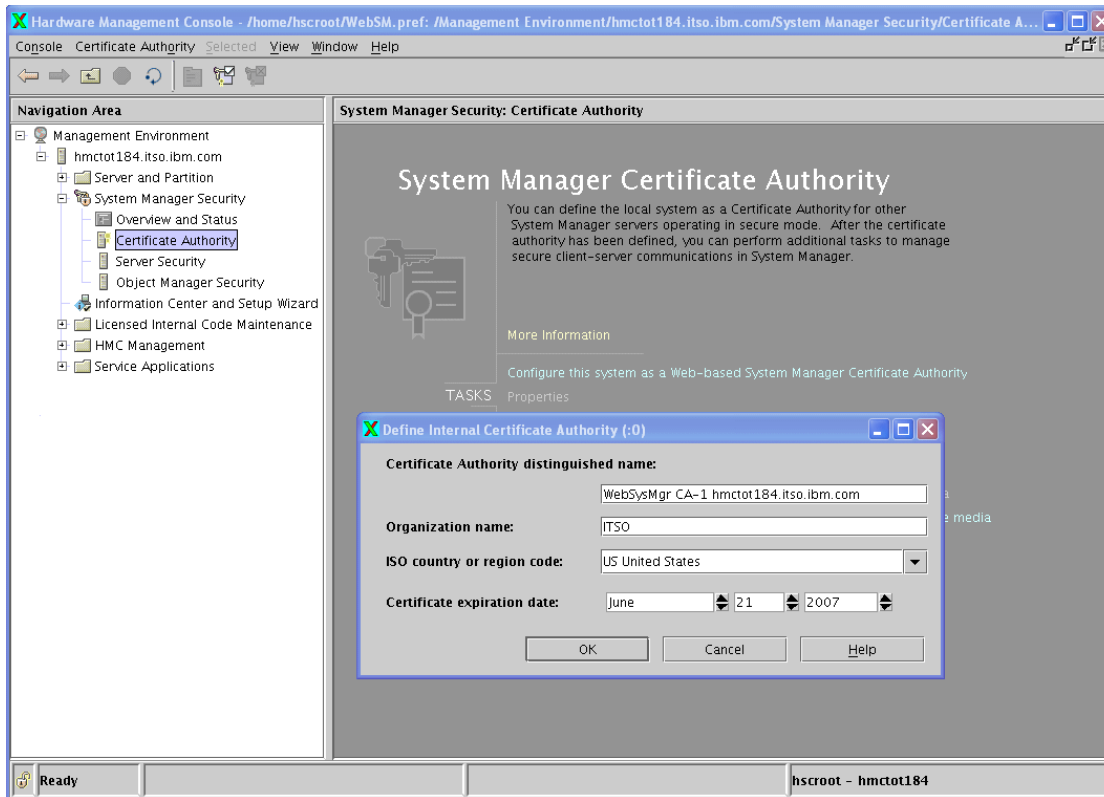

Figure 27 Defining the certificate authority
- ▶ Choose one of the HMCs as the Certificate Authority. In the main menu of the HMC, select **System Manager Security**. Select **Certificate Authority**, and then **Configure this system as a Web-based System Manager Certification Authority**. A panel will be displayed as shown in Figure 27.